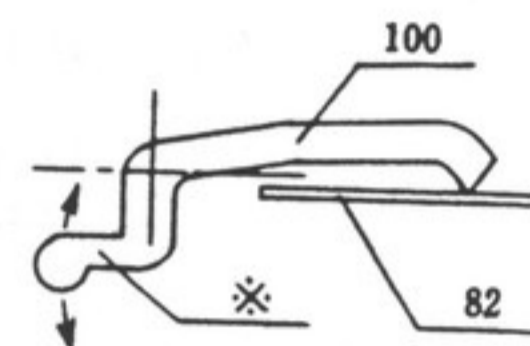

Fig. 11
11-2-2. Set the shutter speed at 1/1000 sec. and adjust by bending * part of First blind cam follower (100) as indicated in Fig. 11. (Use Driver A for First blind cam follower.)